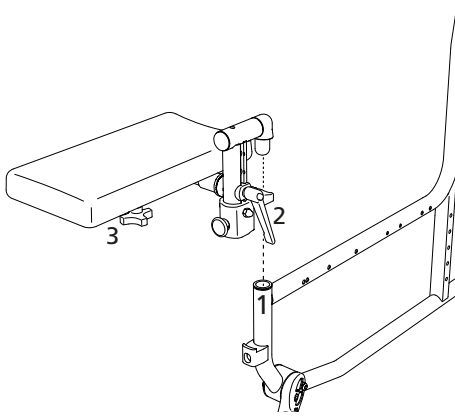

fig.50
2. Grasp the amputation support by the cushion and insert it from above into the frame tube (1, Fig. 50).
1. Release the clamping lever counterclockwise (2, Fig. 50).
1. Loosen the star grip screw (3, Fig. 50).